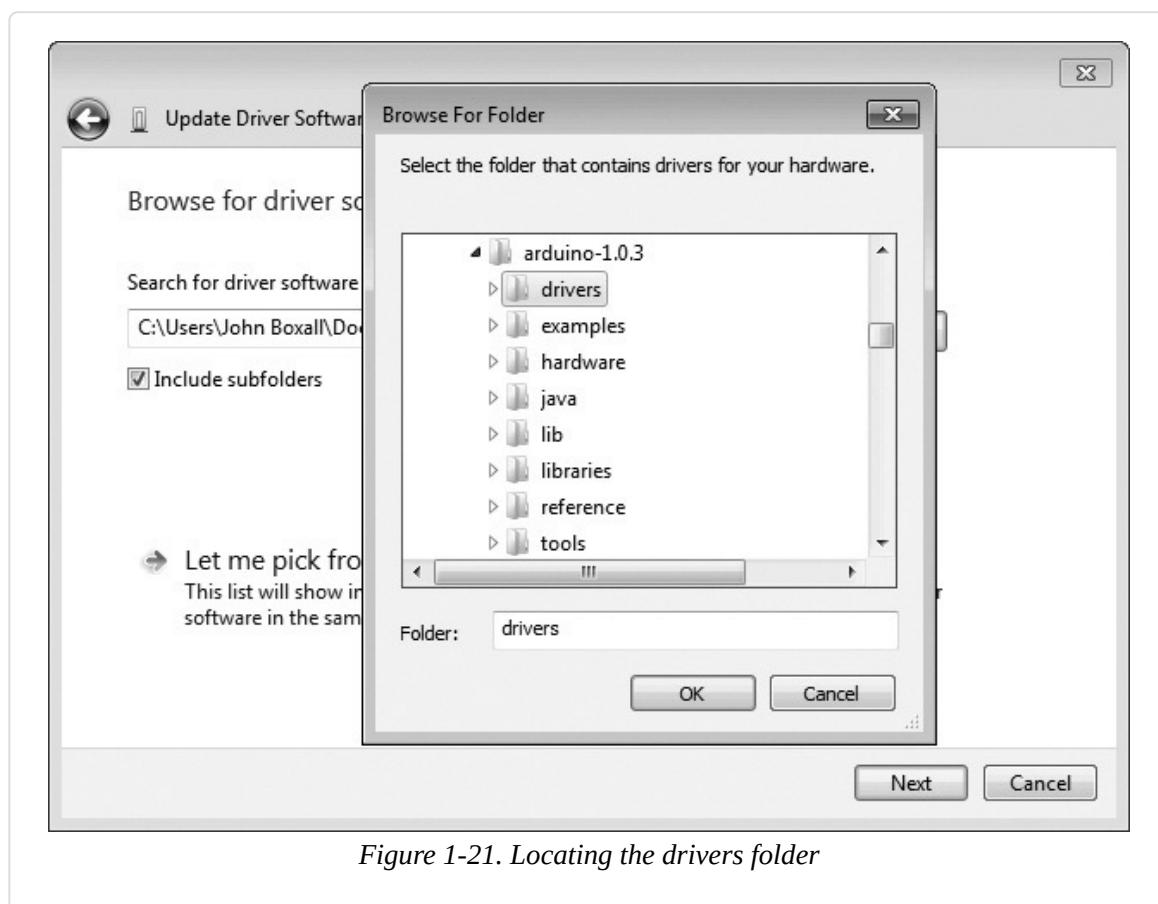

Figure 1-21. Locating the drivers folder
3. Right-click **Arduino Uno** under Other Devices and select **Update Driver Software**. Then, select the **Browse my computer for driver software** option that appears in the next dialog. Another Browse For Folder dialog will appear; click **Browse**, and navigate to the *drivers* folder in the newly installed Arduino software folder (shown in Figure 1-21). Click **OK**.